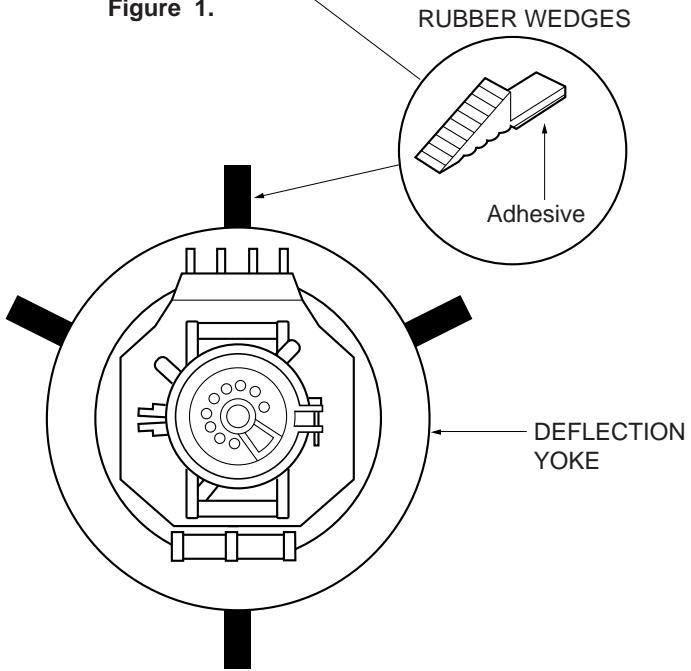

Figure 2.
- Put four wedges into the space between the picture tube and the yoke to hold the yoke in the adjusted position. (See figure 2.)